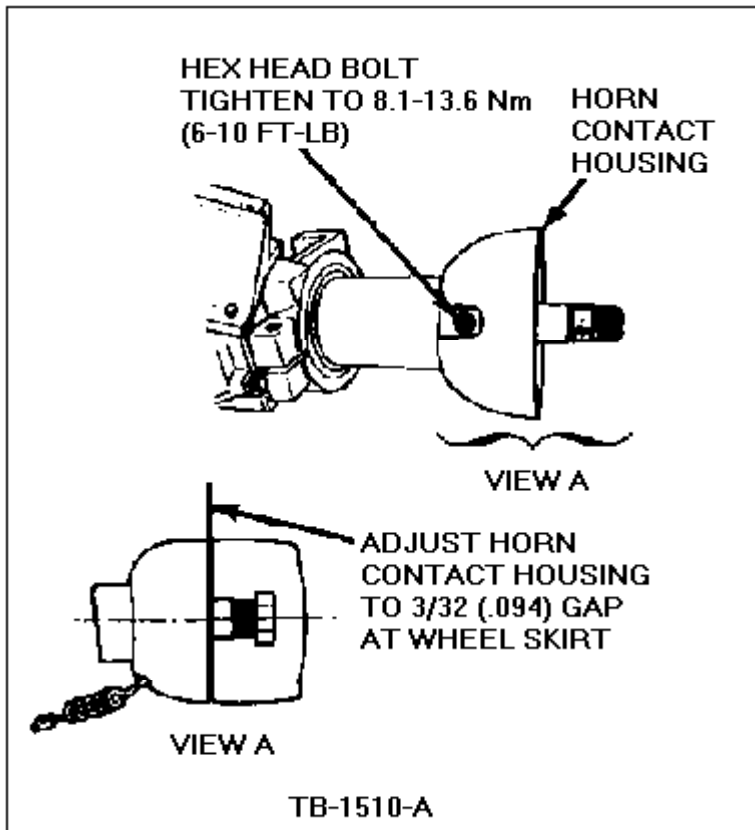

Figure 43 - Article 90-5-10
57. Install the bolt and lock washer finger tight, Figure 43. The bolt must be tightened to 6-10 lb.ft. (8-13 N-m) after the steering wheel is installed and the horn contact housing is adjusted. Adjust the housing to 3/32" gap at the wheel skirt, Figure 43.